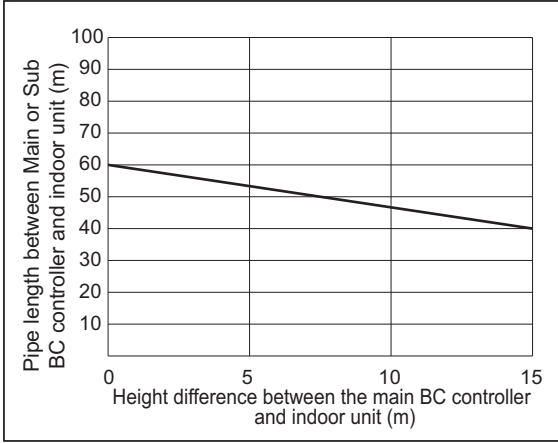

Fig. 2
- *1. Refer to the graphs (Restrictions on Refrigerant Pipe Length) in Section [2-10-1 (3)].
- *2. Details refer to Fig. 2.
- *9. When the piping length or the vertical separation exceeds the limit specified in Fig. 2, connect a sub BC to the system.
When using indoor models P140 or larger, the restrictions shown in Fig. 2 cannot be exceeded.
*9. When the piping length or the vertical separation exceeds the limit specified in Fig. 2, connect a sub BC to the system. The restriction for a system with a sub BC connection is shown in Fig. 3. When a given system configuration falls within the shaded area in Fig. 3, increase the size of the high-pressure pipe and the liquid pipe between the main BC and sub BC by one size. When using P32, P40, P50, P100, or P125 model of indoor units, increase the size of the liquid branch pipe between the sub BC and indoor unit by one size. When using indoor models P140 or larger, the restrictions shown in Fig. 2 cannot be exceeded.